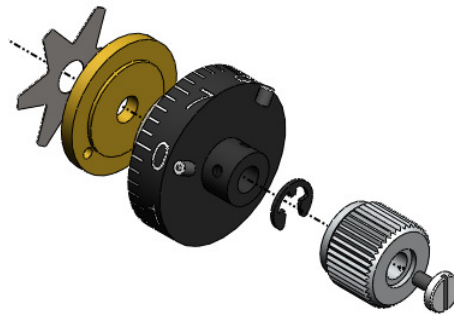

Figure 15 - Right Hand Dial Assembly components
4. Remove all components shown in Figure 15. There are two grub screws securing the dial to the lead screw. Ensure that all these components are not damaged in any way. Damage to either of the knurled knobs would indicate that the unit has been dropped. If this is the case ensure that the unit is checked thoroughly for any further damage as a result of this.